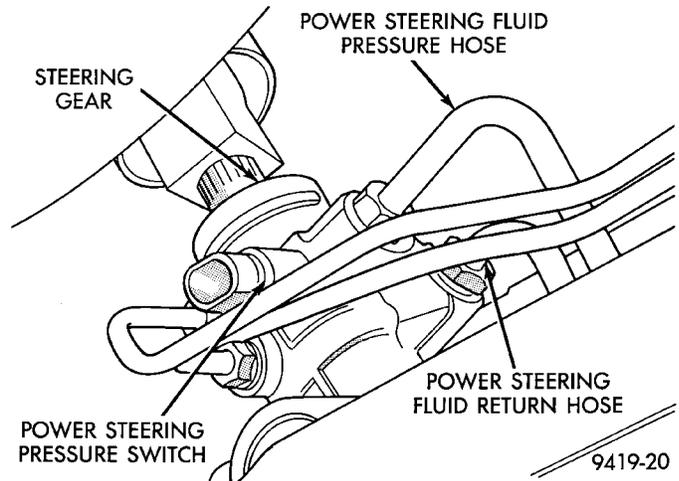

Fig. 10 Power Steering Fluid Pressure And Return Hoses
(9) If vehicle is equipped with power steering, remove power steering fluid, pressure and return hoses (Fig. 10) from the power steering gear assembly.
assembly (Fig. 10). Torque power steering fluid pressure and return lines to steering gear tube nuts (Fig. 10) to 31 N-m (275 in. lbs.).